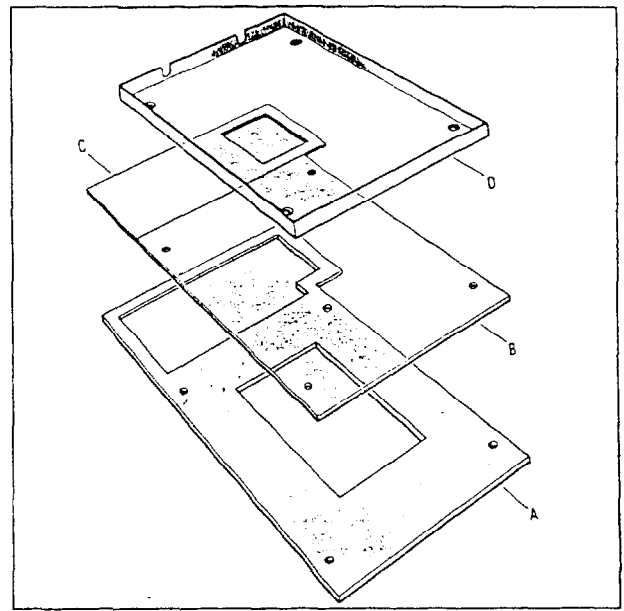

Fig. 8
- ⏪ • Place the two insulating plates (B and C) from the installation set on the dowels or on the bottom plate (A) (Fig.8).
- ⏪ • Lay the floor tray (D/Fig.8) on the larger of the two insulating plates so that the threads of the bottom plate/dowels lie open.